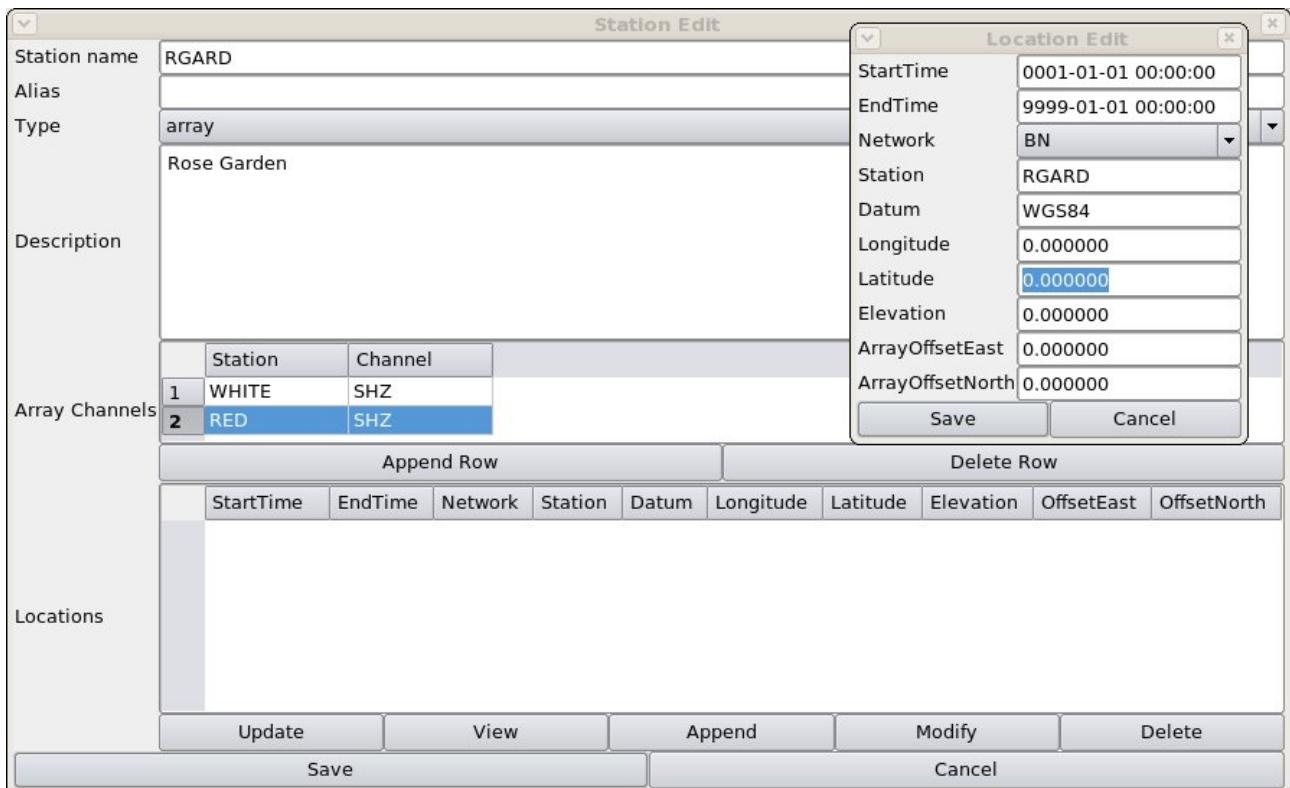

Figure 23: Station Edit window for an array, with Location Edit popup window into which array centre co-ordinates should be typed.
5. When the Station Edit window re-opens, press “Append” below the “Locations” subwindow and enter the array centre latitude, longitude and elevation in the “Location Edit” box (Figure 23). Press “Save” in the Location Edit box, and “Save” again in the Station window.